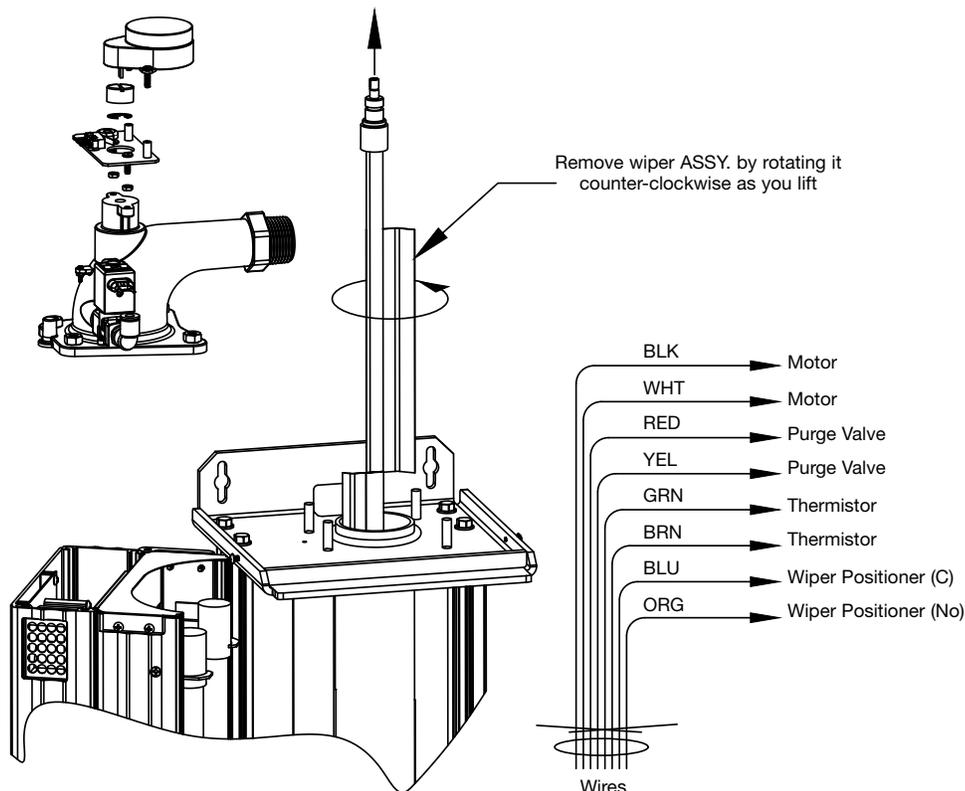

Figure 7-6
12. Press down on the wiper shaft and remove the top manifold (Figure 7.6) by lifting it straight up to disengage the wiper shaft. The shaft adapter should remain on the top of the wiper shaft. Note the orientation of the slot to the wiper blades - the slot is aligned to the wiper blades.